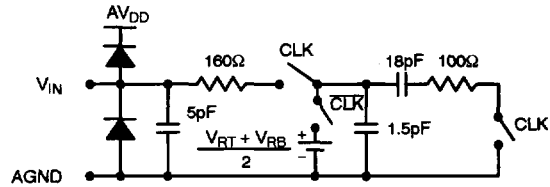

Figure 8. Equivalent Input Circuit
- 5 *See VIN equivalent circuit (Figure 8.). Switched capacitor analog input requires driver with low output resistance.*
This part has a switched capacitor type input circuit. This means that the input impedance changes with the phase of the input clock.  $V_{IN}$  is sampled at the high to low clock transition. Figure 8. shows an equivalent input circuit.